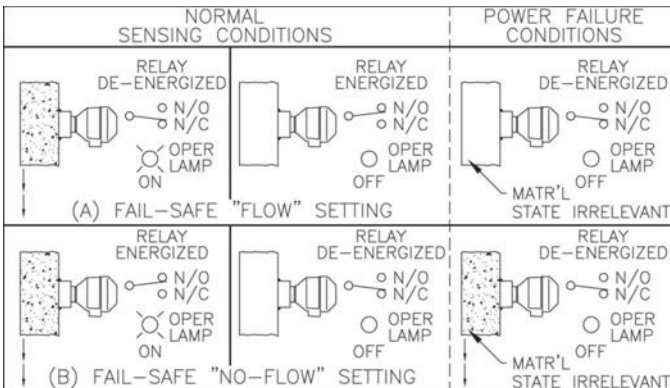

Figure 13
3) Power Supply/Conditioner Outputs - The power supply/conditioner provides DPDT (two Form C) dry contacts for customer connection. They are capable of switching high voltage/high current loads as listed in the specifications. The terminal block designations represent the condition of the relay contacts as if all power was off (See Figure 13).
Fail-safe (See Figure 13) Selection of the fail-safe mode will permit the output contacts to be signaled in a manner which assures proper control of loads in the event of SFD-2 sensor/power failure. Depending on which condition is most critical to signal (flow or no-flow), the selection can be made by positioning the slide switch to the desired state.